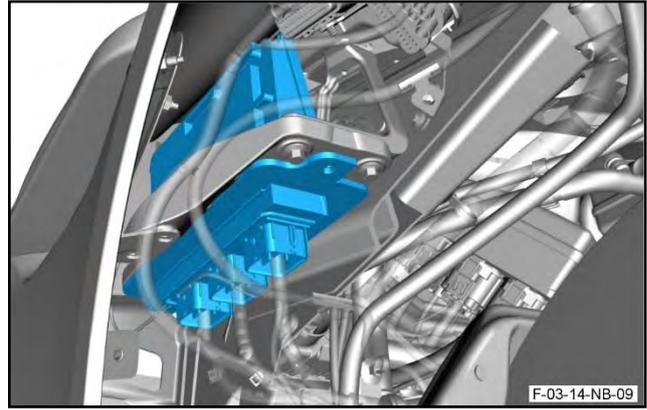

Figure 69
98. Put the PCM back into the correct position (refer to Figure 69).